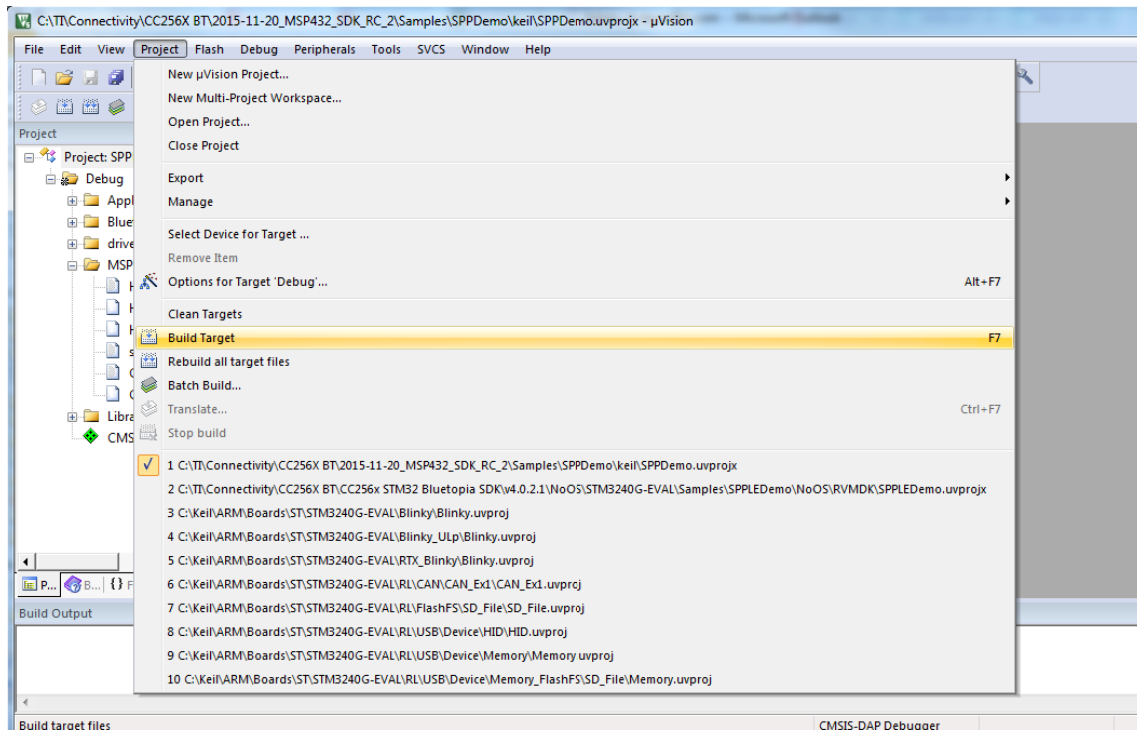

Figure 15. Build Project→ Target
1. Navigate to Project→ Build Target in the program menu (see Figure 15).